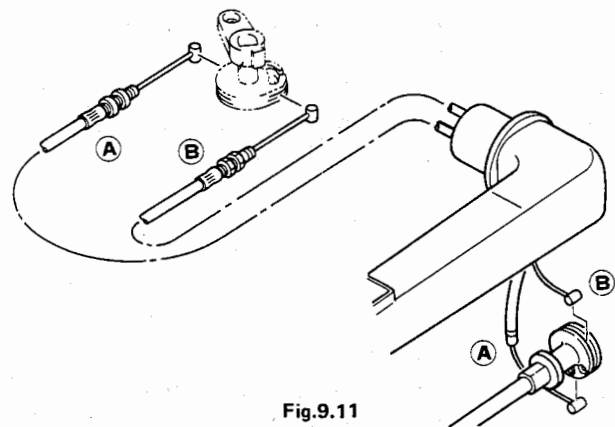

Fig.9.11
3. Mount the throttle wire on the throttle drum, and screw the nuts in the throttle wire mount of the lower motor cover. Be sure to correct the wire installation position shown in Fig.9.11.